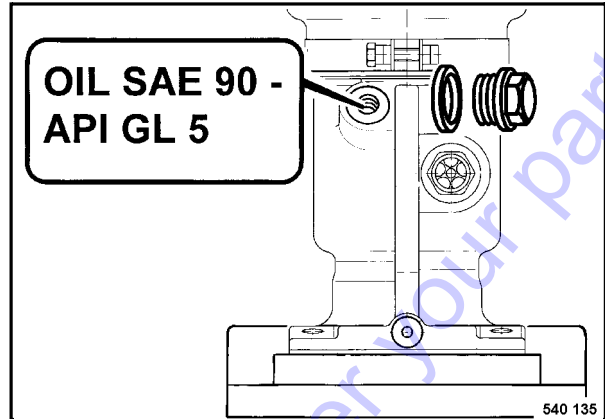

Fig. 5
- Clean the filler plug (Fig. 5) and screw it out.